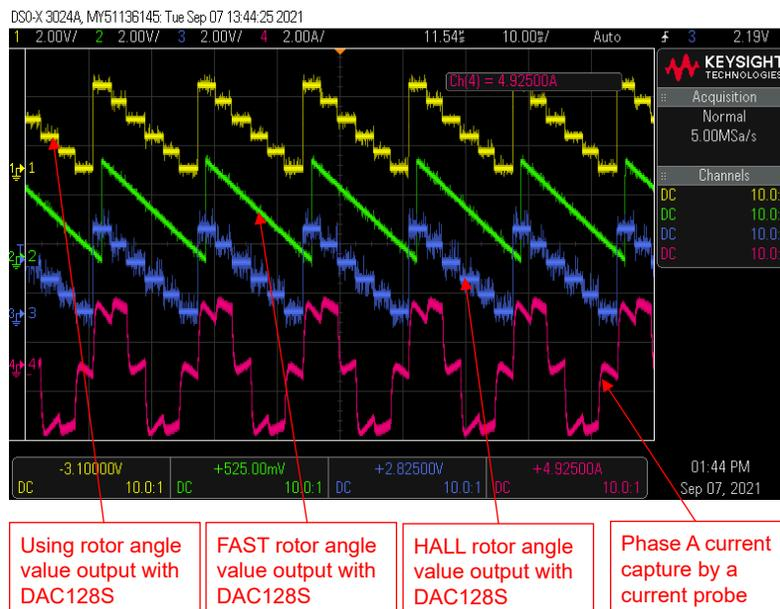

Figure 3-52. Build Level 4: Motor Rotor Angle with FAST and Hall Sensor, Phase Current Waveforms at Reversal Rotation
- The estimated rotor angles from FAST and eSMO are shown in Figure 3-52. The motor is running with FAST at **reversal** rotation by setting `motorVars_M1.speedRef_Hz` to a **negative** value.
Use DAC128S085EVM with an oscilloscope to monitor rotor angle of the motor from the FAST estimator and Hall sensor, and a phase current of the motor as shown in Figure 3-52 when the motor is running at reversal rotation by setting `motorVars_M1.speedRef_Hz` to a negative reference value.